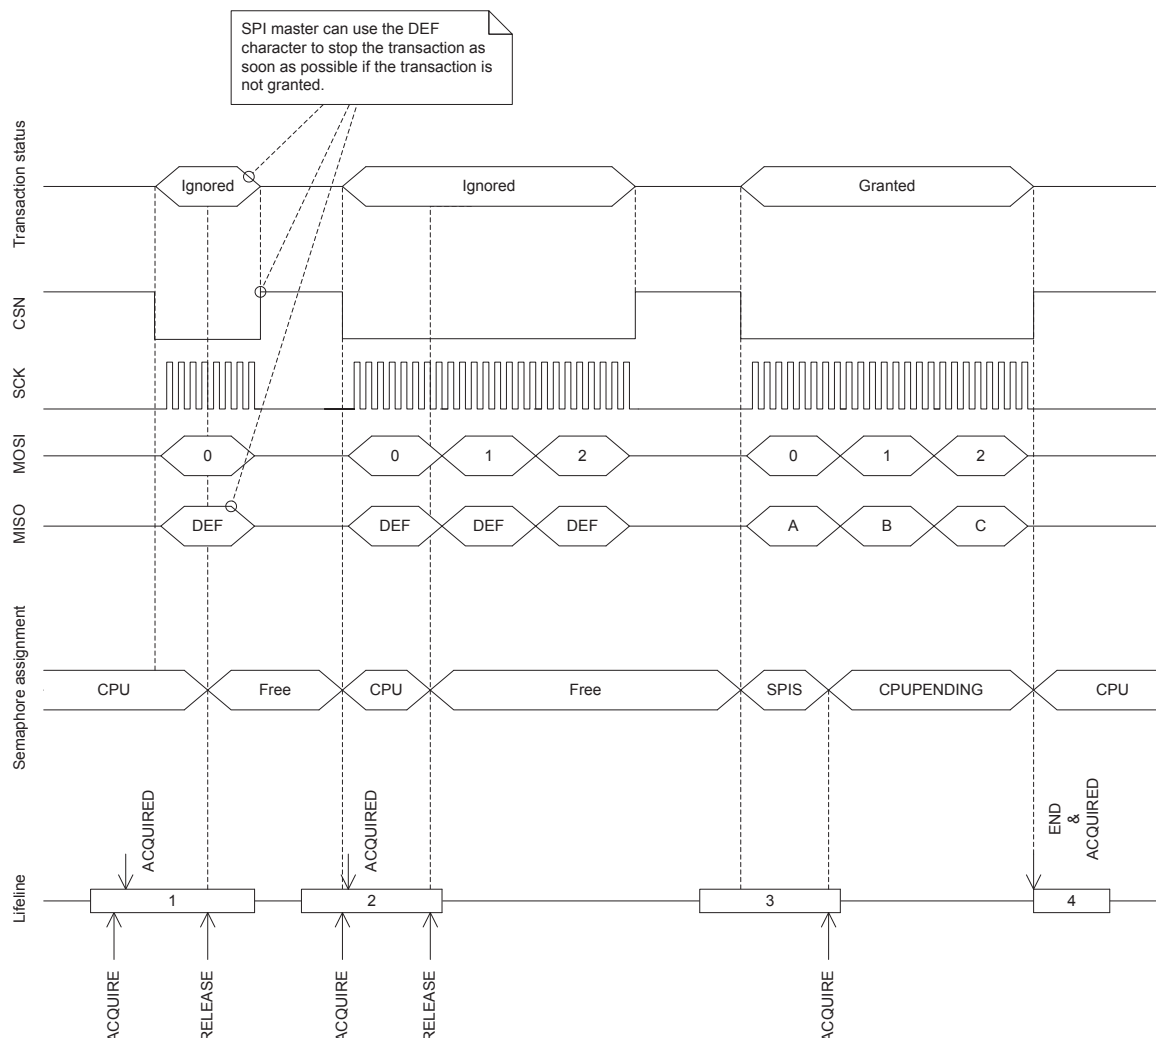

Figure 74: SPI transaction when shortcut between END and ACQUIRE is enabled
See Figure 74: SPI transaction when shortcut between END and ACQUIRE is enabled on page 281.
Before the CPU can safely update the RXD.PTR and TXD.PTR pointers it must first acquire the SPI semaphore. The CPU can acquire the semaphore by triggering the ACQUIRE task and then receiving the ACQUIRED event. When the CPU has updated the RXD.PTR and TXD.PTR pointers the CPU must release the semaphore before the SPI slave will be able to acquire it. The CPU releases the semaphore by triggering the RELEASE task. This is illustrated in Figure 74: SPI transaction when shortcut between END and ACQUIRE is enabled on page 281. Triggering the RELEASE task when the semaphore is not granted to the CPU will have no effect.
The SPI slave will try to acquire the semaphore when CSN goes low. If the SPI slave does not manage to acquire the semaphore at this point, the transaction will be ignored. This means that all incoming data on MOSI will be discarded, and the DEF (default) character will be clocked out on the MISO line throughout the whole transaction. This will also be the case even if the semaphore is released by the CPU during the transaction. In case of a race condition where the CPU and the SPI slave try to acquire the semaphore at the same time, as illustrated in lifeline item 2 in Figure 74: SPI transaction when shortcut between END and ACQUIRE is enabled on page 281, the semaphore will be granted to the CPU.